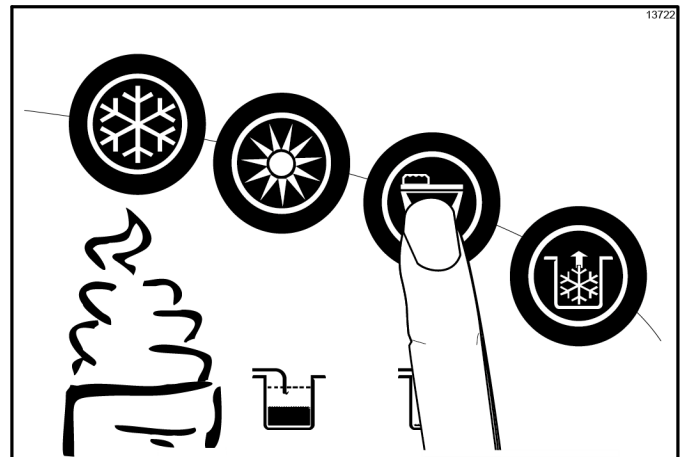

Figure 6-58
2. With a pail beneath the door spout, open the draw valve and press the Wash key . (See Figure 6-58.)